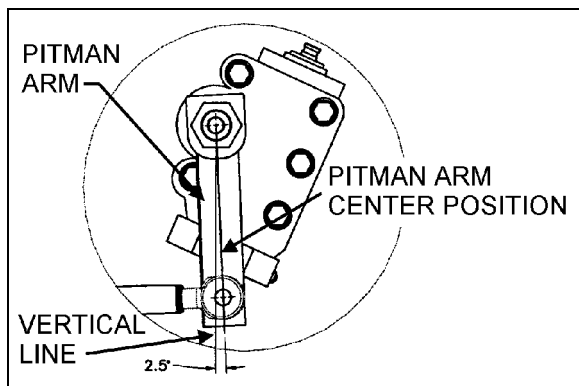

FIGURE 17: I-BEAM FRONT AXLE PITMAN ARM ADJUSTMENT 14037
3. Lock nut with sector shaft using a punch mark into the groove (Refer to figures 17 and 18).
2. Using a protractor, check the angle of the pitman arm (refer to Fig. 17 and 18 for details).